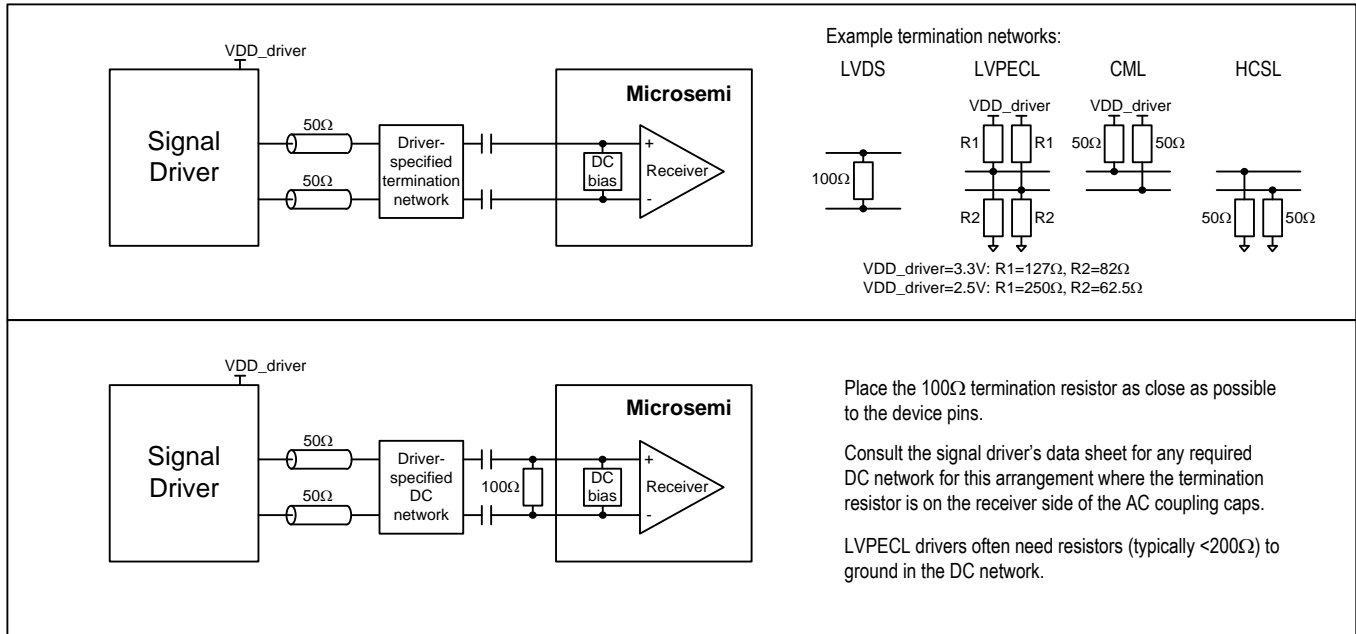

Figure 22 - Example External Components for Differential Input Signals
- Note 3:** **Differential signals.** The differential inputs can easily be interfaced to neighboring ICs driving LVDS, LVPECL, CML, HCSL, HSTL or other differential signal formats using a few external passive components. In general, Microsemi recommends terminating the signal with the termination/load recommended in the neighboring component's data sheet and then AC-coupling the signal into the ICxP/ICxN pins. See Figure 22 for details. To connect a differential signal to IC3, AC-couple one side of the signal to IC3P and AC-couple the other side to VSS. For DC-coupling, treat the input as 1.8V CML.